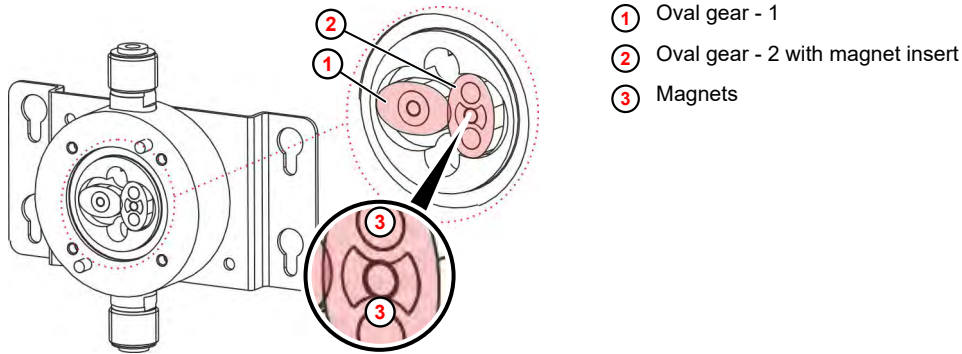

Fig. 20: Oval gear meter
The oval gear wheels must be inserted so that they are offset to each other by exactly 90° ( Fig. 20 , items ① + ② ) .